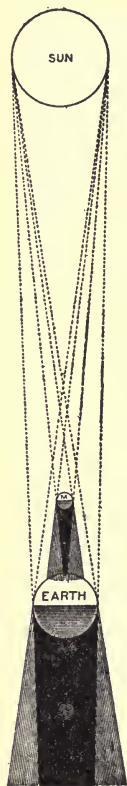

FIG. 209.—How eclipses of the sun and moon take place.
**Eclipses.** When the sun shines on the earth and moon, a long shadow is thrown out on the side of these bodies away from the sun. This shadow is in the form of a cone extending out many thousands of miles, indeed farther than the distance between the earth and the moon. When the earth is between the sun and moon (figure 209), the moon at certain times passes into this shadow and so is eclipsed. This shadow is big enough so that the moon may be entirely covered. When the moon is between the earth and the sun, it sometimes happens that the moon's shadow falls on some part of the earth and this causes an eclipse of the sun. This part of the moon's shadow is very small, less than two hundred miles in diameter, so that the sun is eclipsed for only a small part of the earth at any one time. These eclipses can be foretold many years ahead with great exactness.